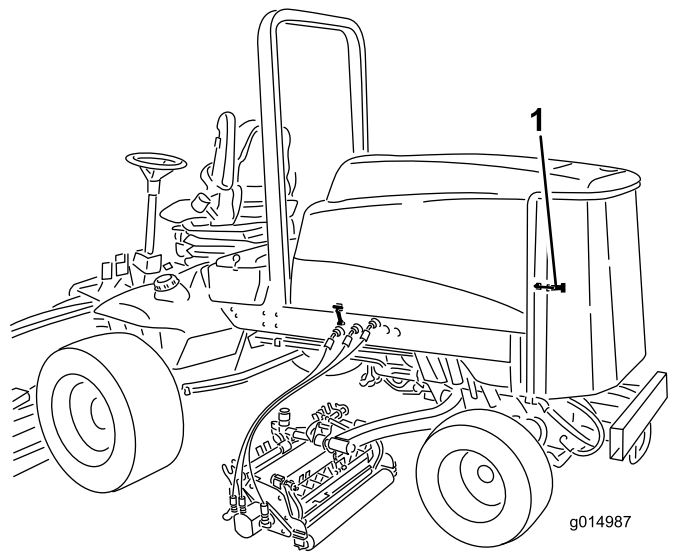

Figure 70
1. Unlatch and swing open rear screen (Figure 70). Clean the screen thoroughly of all debris.